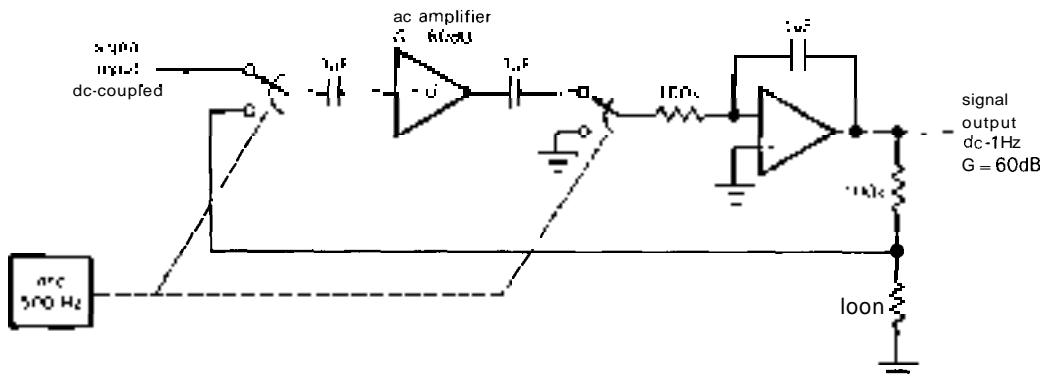

Figure 7.21. An ac-coupled chopper amplifier.
- ~~ac-coupled "chopper amp."~~ When considering auto-zeroing chopper amplifiers, be sure you don't confuse this technique with another "chopper" technique, namely the traditional low-bandwidth chopper amplifier in which a small dc signal is converted to ac ("chopped") at a known frequency, amplified in ac-coupled amplifiers, then finally demodulated by multiplying with the same waveform used to chop the signal initially (Fig. 7.21). This scheme is quite different from the full-bandwidth auto-zeroing technique we've been considering, in that it rolls off at signal frequencies approaching the clock frequency, typically just a few hundred hertz. You sometimes see it used in chart recorders and other low-frequency instrumentation.